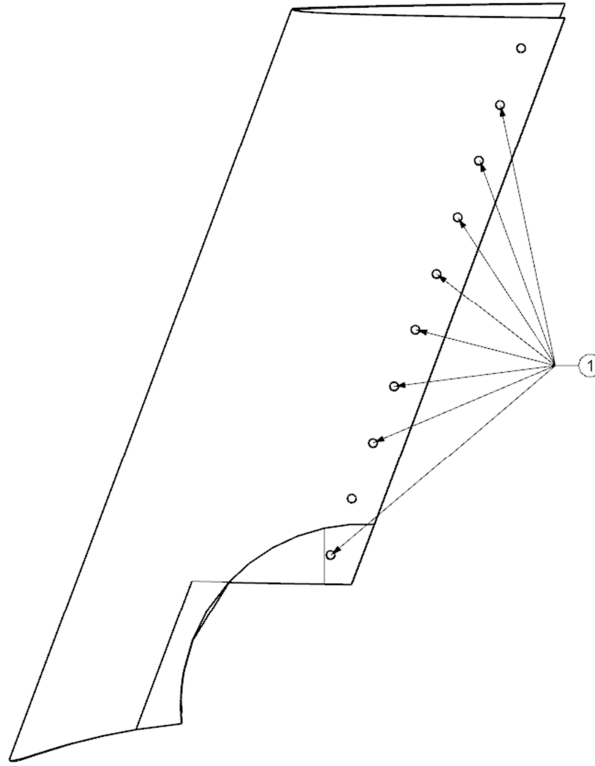
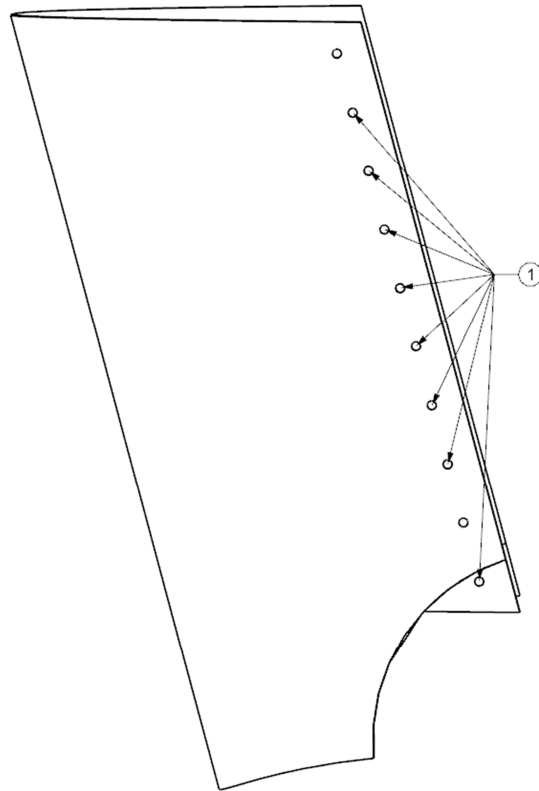
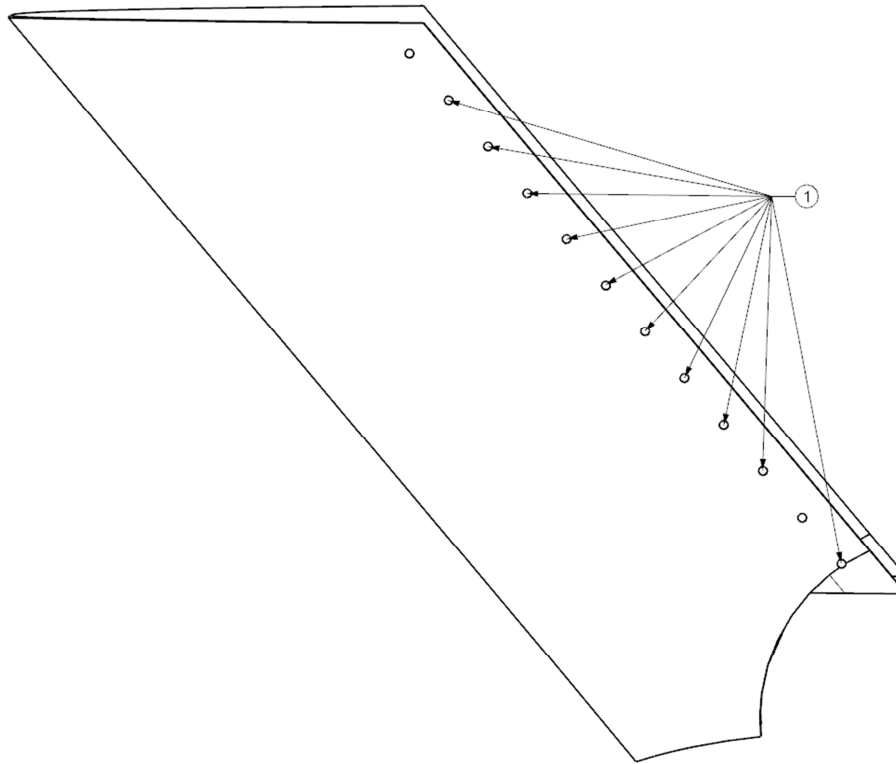

Figure 3-2: Outboard Wing Pylon Leading Edge Fastener Placement
Figure 3-3: Center Wing Pylon Leading Edge Fastener Placement
Figure 3-4: Inboard Wing Pylon Leading Edge Fastener Placement
2. Attach the wing pylon leading edges (UWB-ICE-06-401, UWB-ICE-07-401, and UWB-ICE-08-401) to the port wing array pylons using MS27039-1-12 fasteners in the locations specified in Figure 3-2, Figure 3-3, and Figure 3-4.